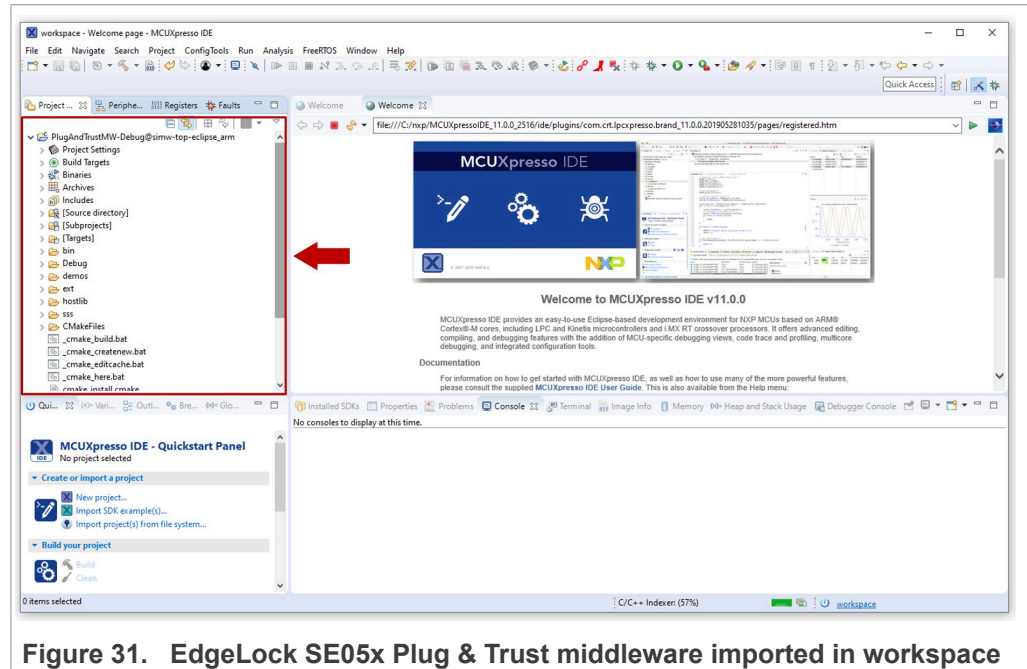

Figure 31. EdgeLock SE05x Plug & Trust middleware imported in workspace
- The *PlugAndTrustMW* project should now be imported in your workspace as shown in Figure 31: